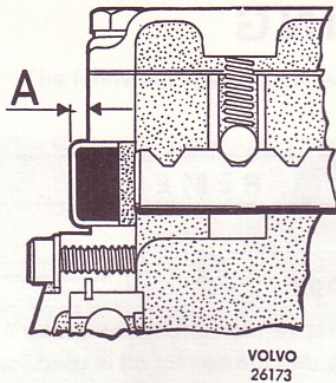

Fig. 32. Fitting end cap over selector rail
viously, that is to say, the centre end cap should project about 4 mm (5/32") outside the face of the housing, see Fig. 32.
10. Place the interlock balls and springs in position, see Fig. 32. Fit the gearbox cover. Check that all gears engage and disengage freely.